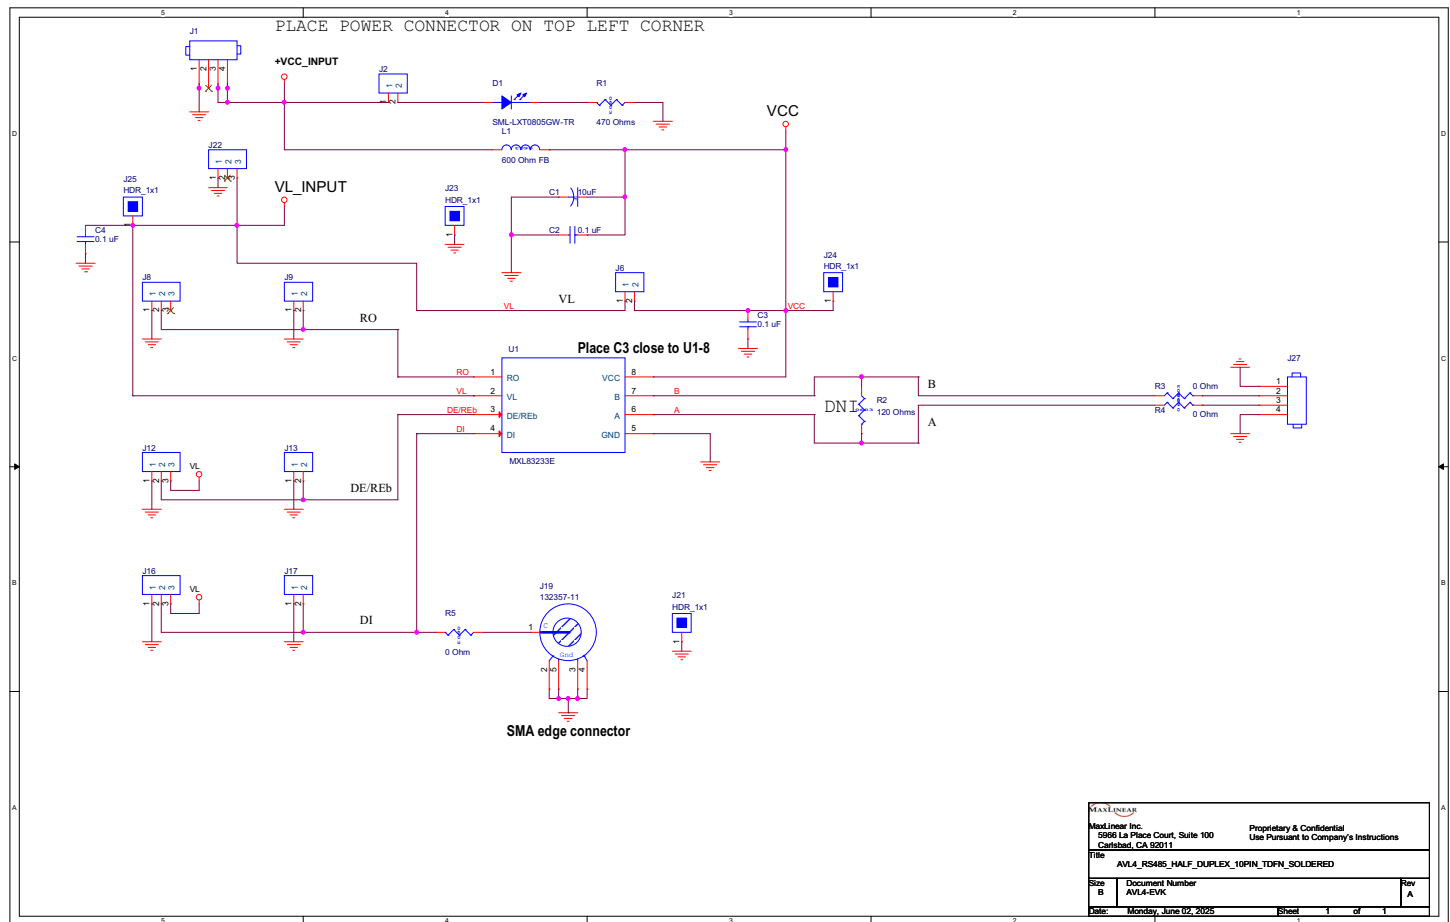

Figure 3: MxL83233 EVK Schematic
- Figure 3 on page 3 shows the schematic of the EVK.